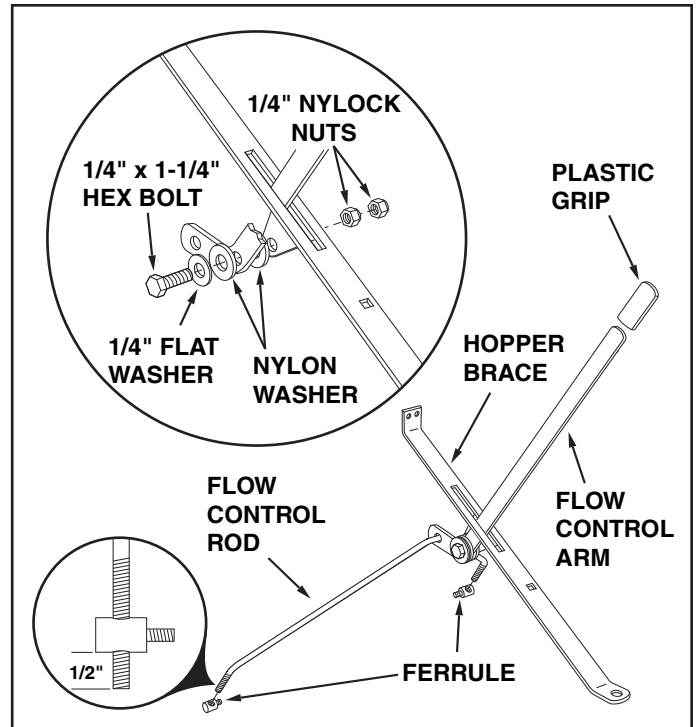

FIGURE 3
- Assemble the plastic grip onto the end of the flow control arm as shown in figure 3.
- Insert the flow control arm through the slot in the hopper brace. Place a nylon washer on each side of the arm and attach it to the brace's welded bracket using a 1/4" x 1-1/4" hex bolt, a 1/4" flat washer and two 1/4" hex lock nuts as shown in figure 3. **Tighten** the first hex lock nut until there is noticeable resistance when moving the flow control arm, then **tighten** the second hex lock nut.
- Place the flow control rod through the hole at the end of the flow control arm. Assemble the two ferrules onto the threaded ends of the rod so that approximately 10 threads (1/2") of the rod extends through the ferrules. See figure 3.